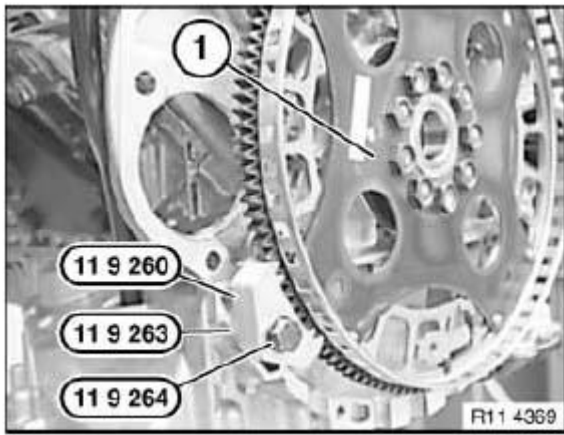

Fig. 131: Identifying Flywheel With Special Tools
Block flywheel (1) with special tool 11 9 260, use an old transmission screw for this purpose. See **Fig. 131**.